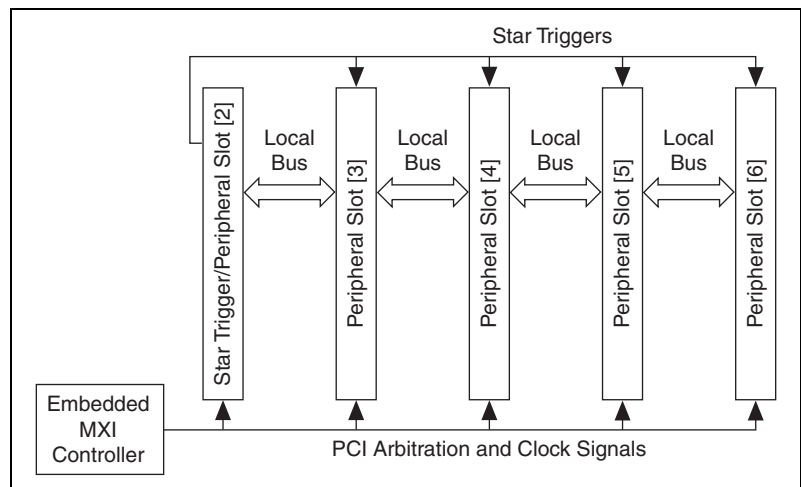

Figure 1-4. PXI Star Trigger and Local Bus Routing
The star trigger (ST) slot is slot 2. This slot has dedicated equal-length trigger lines between slot 2 and peripheral slots 3 through 6 (refer to Figure 1-4). Slot 2 is intended for modules with ST functionality that can provide individual triggers to all other peripheral modules. However, if you do not require advanced trigger functionality, you can install any standard peripheral module in this slot.
The PXI backplane local bus is a daisy-chained bus that connects each peripheral slot with adjacent peripheral slots to the left and right (refer to Figure 1-4). For example, the right local bus of slot 2 connects to the left local bus of slot 3, and so on.